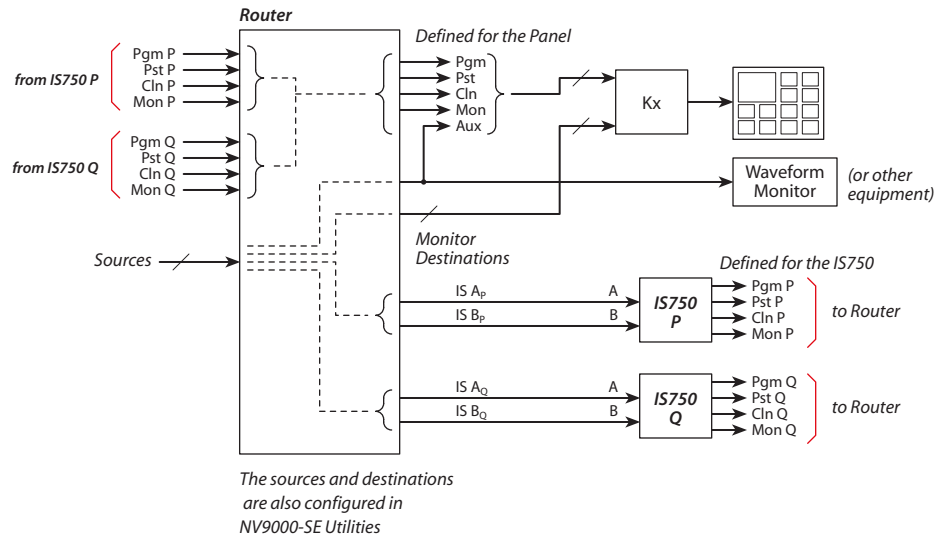

Figure A-4. Router Connections with Aux Output for the Panel
- Case 1: If you do configure the aux output for the panel, multiple aux outputs can feed the Kaleido-X (and auxiliary equipment). It requires router connections as shown in Figure A-4: